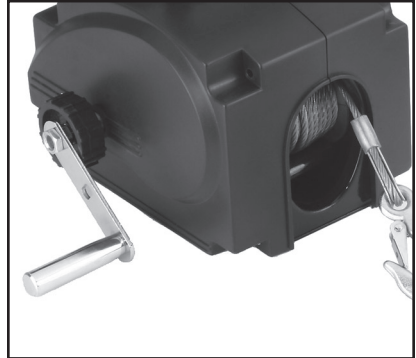

Figure 5. Hand crank.
2. Remove the outer hex nut and place the end of the hand crank over the flattened end of the threaded shaft (see **Figure 5**).